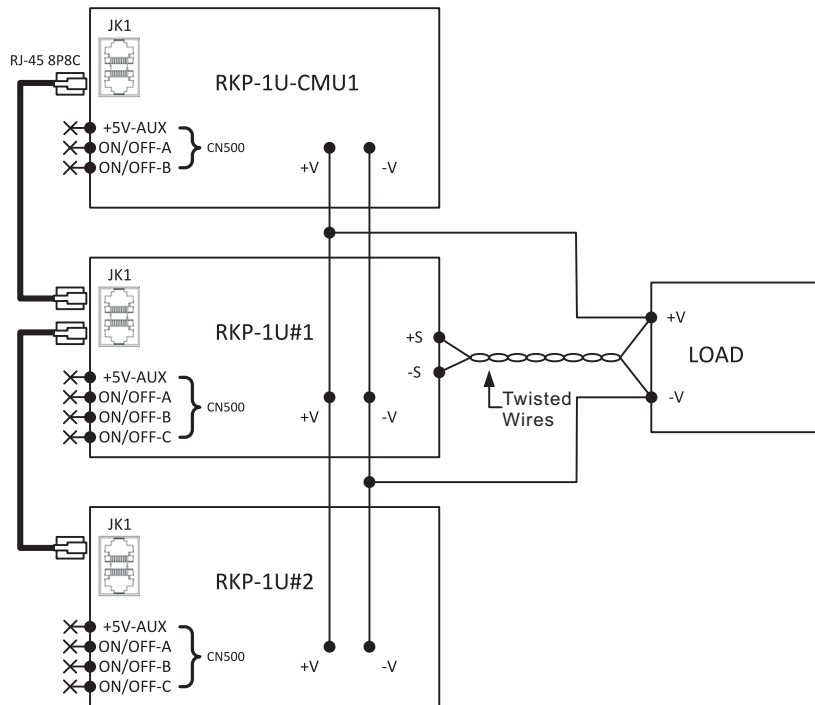
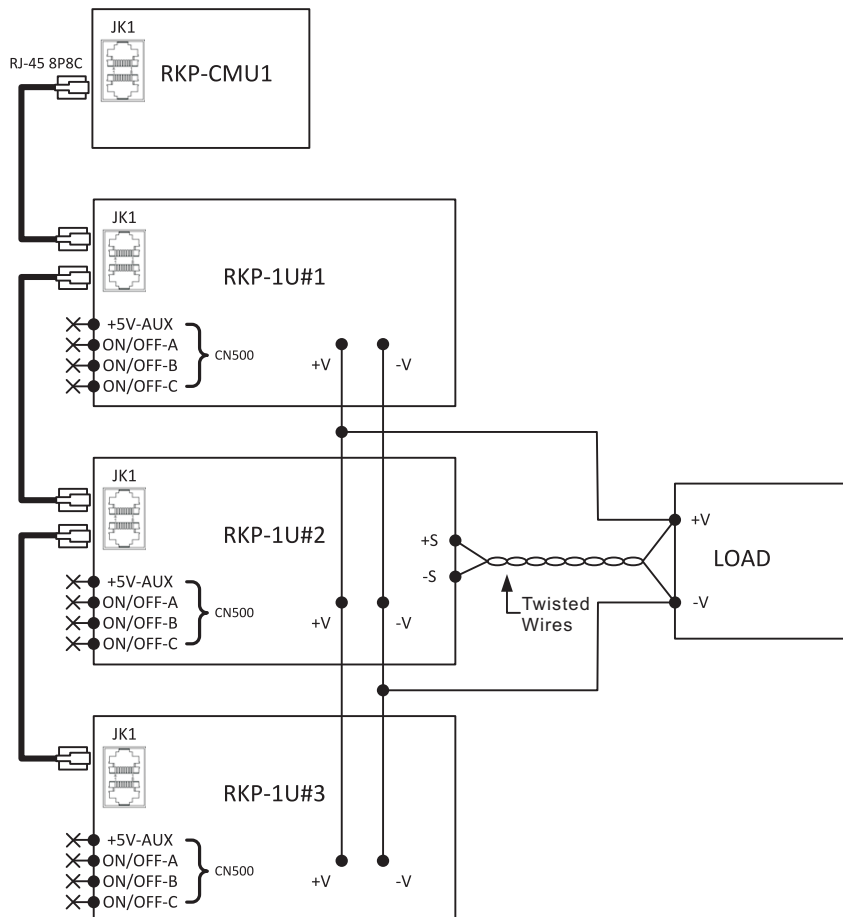

Figure 3-2 Configuration of a RKP-1U-CMU1 and two RKP-1Us
Figure 3-3 Configuration of a RKP-CMU1 and three RKP-1Us
- ◎Connect rack units in parallel before linking to the load. Do not connect rack units to the load separately. Refer to Figure 3-2 and Figure 3-3.
- ◎Use twisted wires for the wiring of +S and S. The twisted wires should not touch the load wires to avoid interference. Refer to Figure 3-2 and Figure 3-3.
- ◎Parallel operation of rack units is only suitable for the identical RCP-2000 units, namely units with the same output voltage and current rating. Up to three rack units including a RKP-1U-CMU1 and two RKP-1Us (eight RCP-2000 units) can be connected in parallel, as Figure 3-2 shows.
- ◎ RKP-CMU1 is capable of monitoring and controlling up to three RKP-1Us (nine RCP-2000 units). Please refer to the user's manual of RCP-2000/RKP-1U and Figure 3-3 for notes on parallel operation of RKP-1Us.